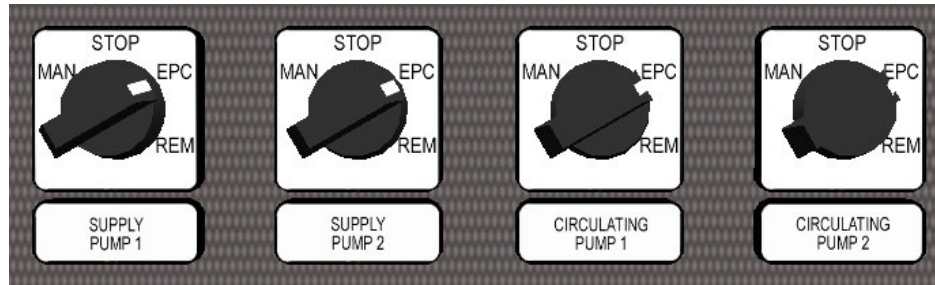

Fig. 30. Supply and circulating pump switches – EPC position
1. Set all four pump switches to the EPC position (fig. 30).